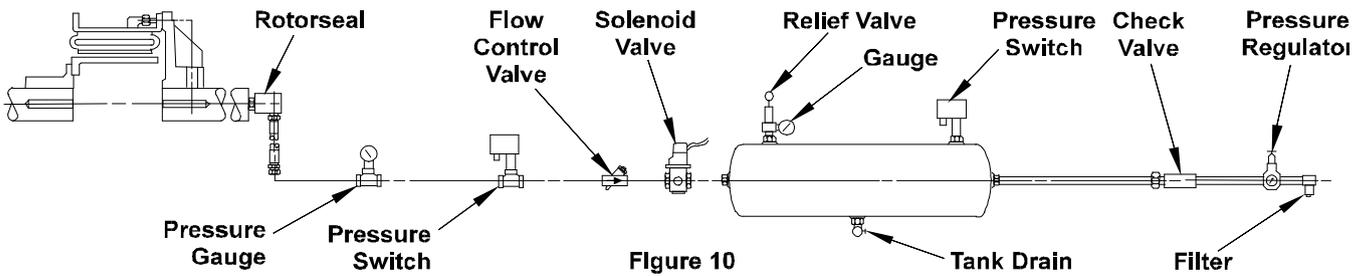

Figure 10
- 2.6.1. A typical air control system is shown in Figure 10. Since the air control system used will be dependent on the specific application, a detailed description cannot be made in this manual. Following are some general guidelines for installing and adjusting air controls.